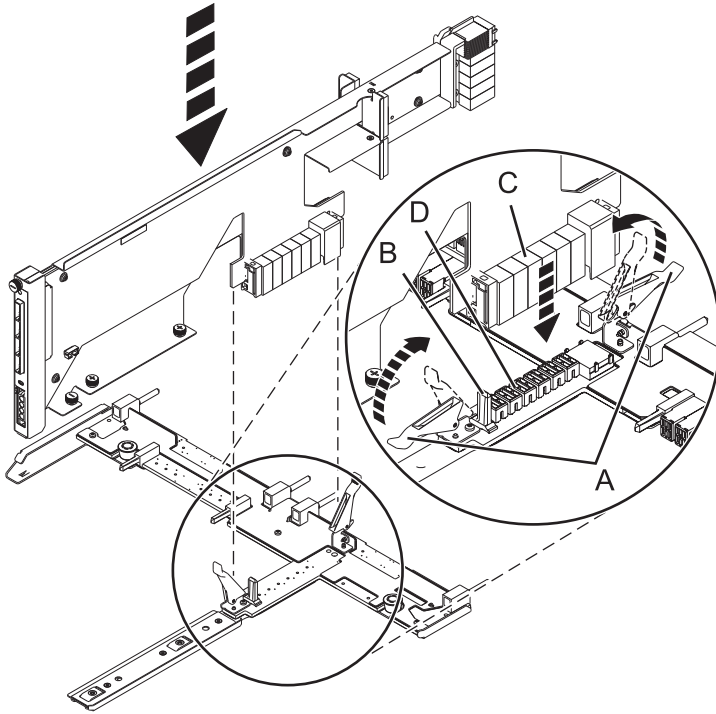

Figure 133. Installing the SAS conduit card into the midplane
- a. Place the card connector (C) on the midplane connection (D) using the guide track (B) to ensure a good connection.
- b. Lift the handle (A) to seat and secure the SAS conduit card to the midplane as shown in Figure 133 on page 158.